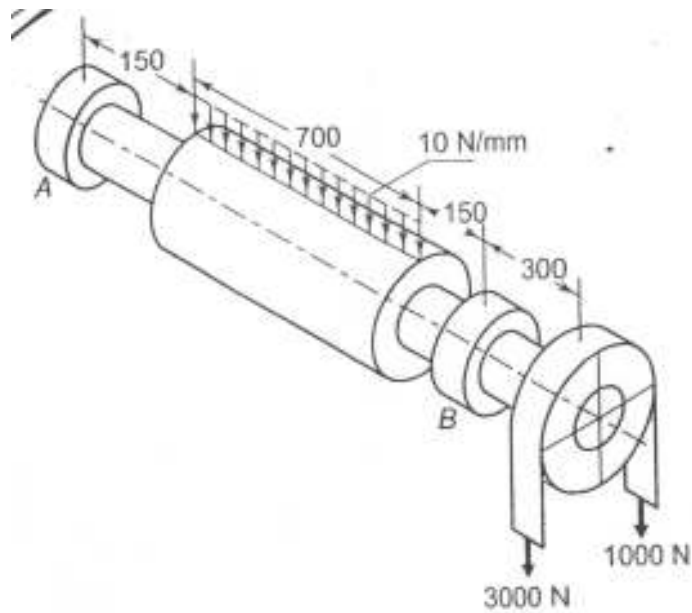

Fig No.1 Question 3(b)
- (b) The armature shaft of a 40 kW, 720 r.p.m. electric motor mounted on two bearings are as shown in Fig.no.1.the total magnetic pull on the armature is 7 kN and it is assumed to be uniformly distributed over a length of 700 mm midway between the bearings. The shaft is made-up of steel with an ultimate tensile strength of 770 MPa and yield strength of 580 MPa.Determine the shaft diameter using ASME code if, $k_b = 1.5$ and $k_t = 1.0$ Assumed that the pulley is keyed to the shaft. **07**